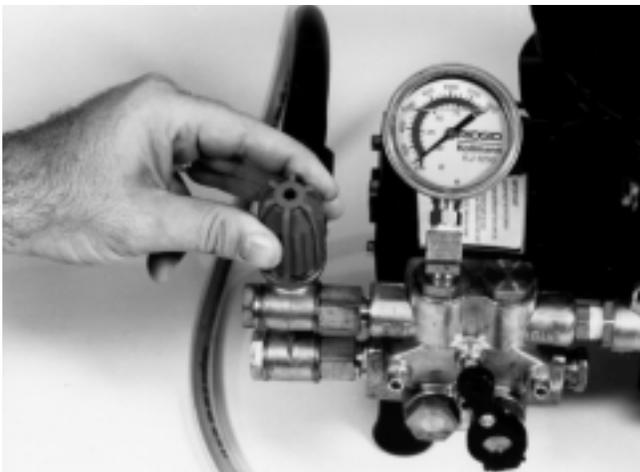

Figure 3 – Adjust the unloading valve
2. On the KJ-1750, adjust the unloading valve so that the pressure gauge shows 1750 PSI (green zone). At this pressure, the KJ-1750 draws approximately 17 AMPS when supplied with 115 volt A/C current. (Figure 3)